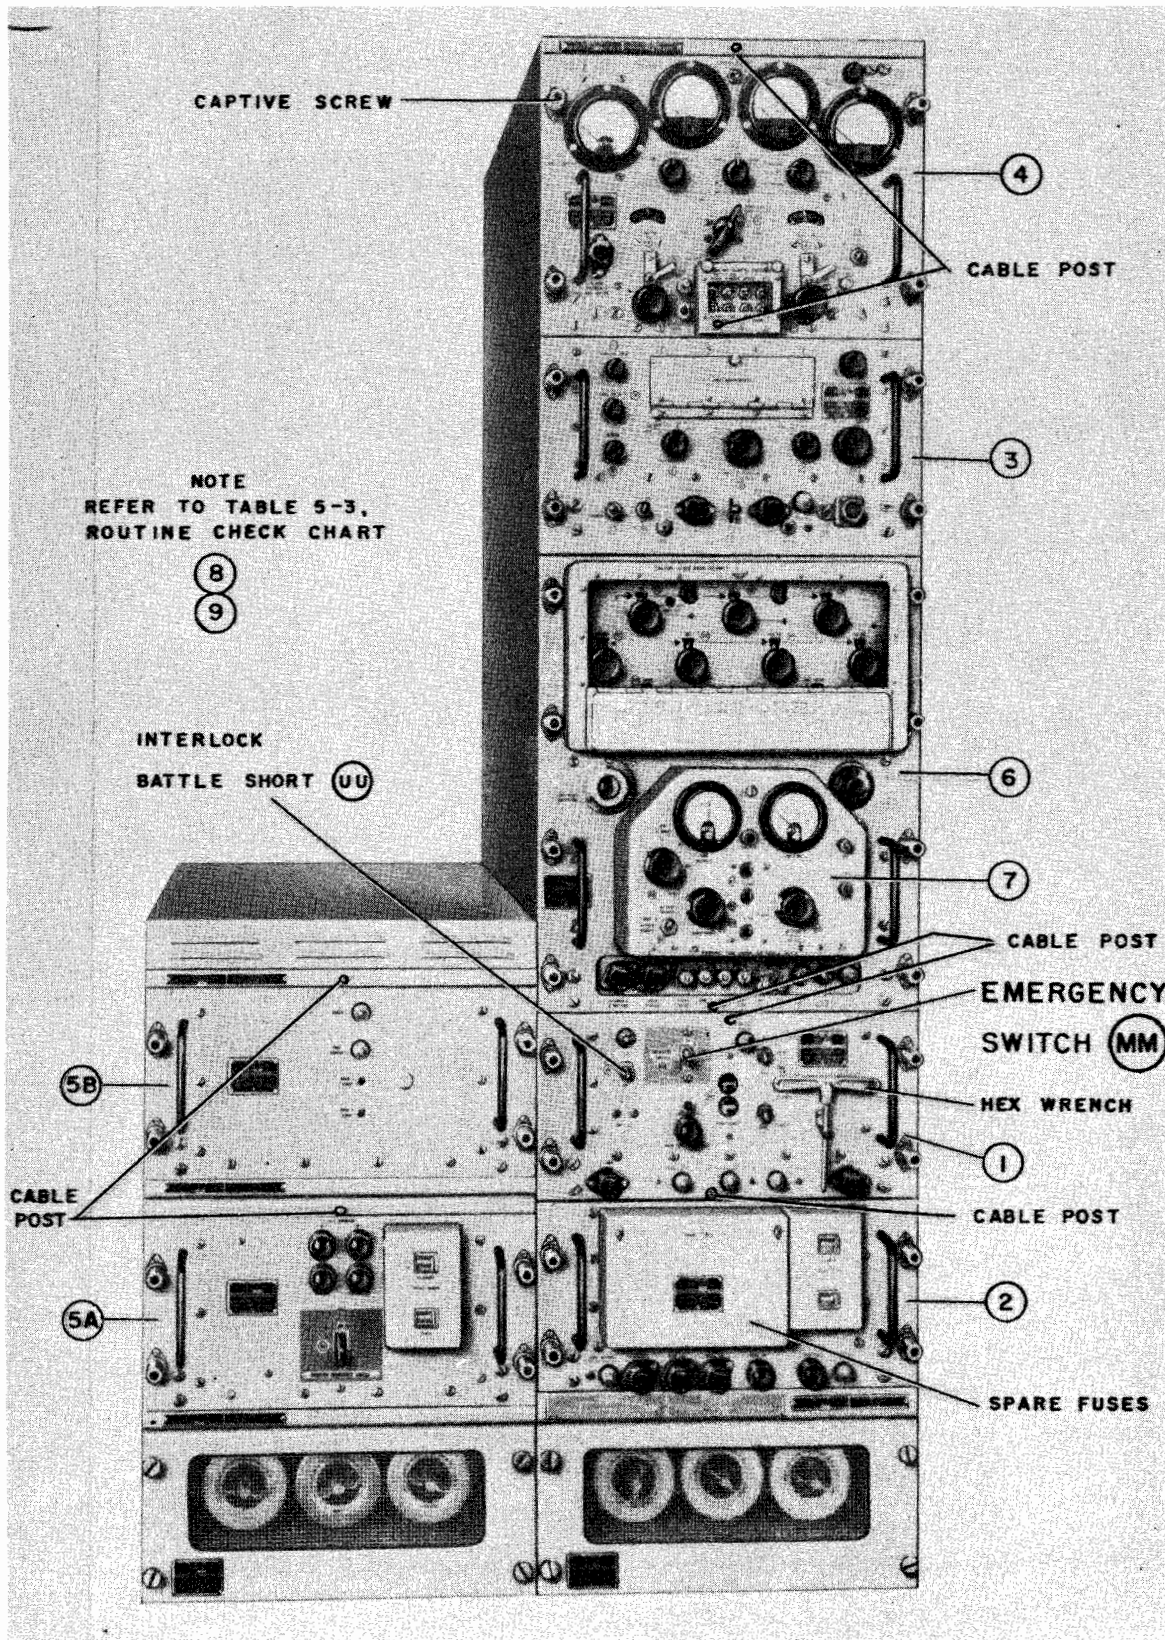

Figure 5-1. AN/SRT-15, Routine Checks
a. GENERAL.—Many of the operator's adjustment and replacement procedures in servicing AN/SRT-14, 15 and 16 may be accomplished directly in front of the equipment. The operator of the equipment, as a matter of routine, is to make the various checks and adjustments suggested in this section. A general view of the AN/SRT-15 is shown in figure 5-1.
b. ROUTINE CHECK CHART. (*See figure 5-1.*)— At the beginning of each watch, check the components as listed in table 5-3. At this time, the accessible parts of the equipment should be wiped clean with a dry cloth to check moisture and to maintain the appearance of the equipment.
(1) CHASSIS REMOVAL.—To remove a unit from its drawer, the socket-head captive screws on the front panel (see figure 5-1) must be loosened. These screws are protected by retaining cups. A hex wrench with a T-handle, attached to the front panel of the LVPS (see figure 5-1), is supplied for this purpose.
Before actually lifting the chassis out of its drawer, its interconnecting cable plug must be removed and fastened to the cable post (see figure 5-1) on the chassis just above, to prevent its springing back into the drawer. If the chassis above the withdrawn unit has been removed, too, this will, of course, be impossible. In the latter case, the cable is to be allowed to retract gently into the vacated drawer recess.
The interlock continuity is interrupted when the drawer is pulled out. To bypass the interlock, a "cheater" switch has been installed on the left side of each chassis, towards the rear. This switch may be closed to energize the withdrawn chassis. The hard rubber push rod is pushed in to complete the circuit. Another means of circumventing the interlock is provided on the Power Supply PP-1094/SRT (LVPS) front panel in the form of a switch called INTERLOCK BATTLE SHORT . (See figure 5-1.) This bypasses all the interlocks in every chassis.